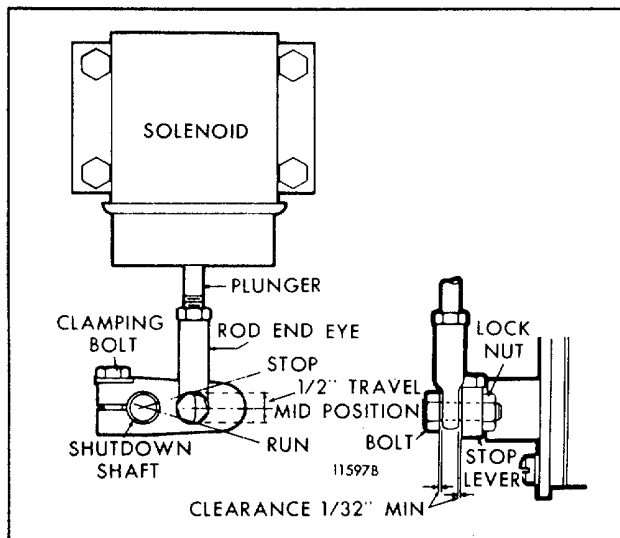

Fig. 7 - Typical Variable Speed Governor Lever Position
1. Remove the bolt connecting the rod end eye (variable speed governor), or the right angle clip (limiting speed governor) to the stop lever (Figs. 7 and 8). Align and clamp the lever to the shutdown shaft in such a way that, at its mid-travel position, it is perpendicular to the solenoid plunger. This assures that the linkage will travel as straight as possible. The solenoid plunger has available 1/2 " travel which is more than adequate to move the injector control racks from the full-fuel to the complete no-fuel position and shutdown will occur prior to attaining complete travel.